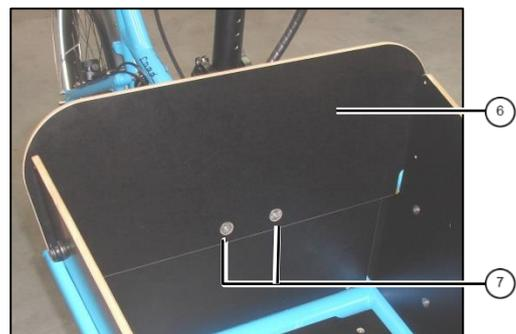

Fig. 3: Cargo back wall
5. Install Cargo back wall 6 with countersunk screws 7 (see fig. 3).